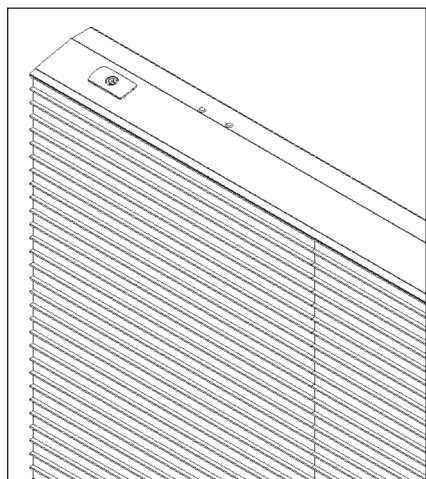

**Figure 1:** Plumb & Level Upper Wall Clips
1. Level the upper wall clips. Refer to **Figure 1** and the contract-specific Shop Drawing for details. All upper wall clips must be plumb and level before hanging any sections.
2. Verify the lower Z-clips are installed per the contract-specific Shop Drawing. Refer to **Figure 1**.